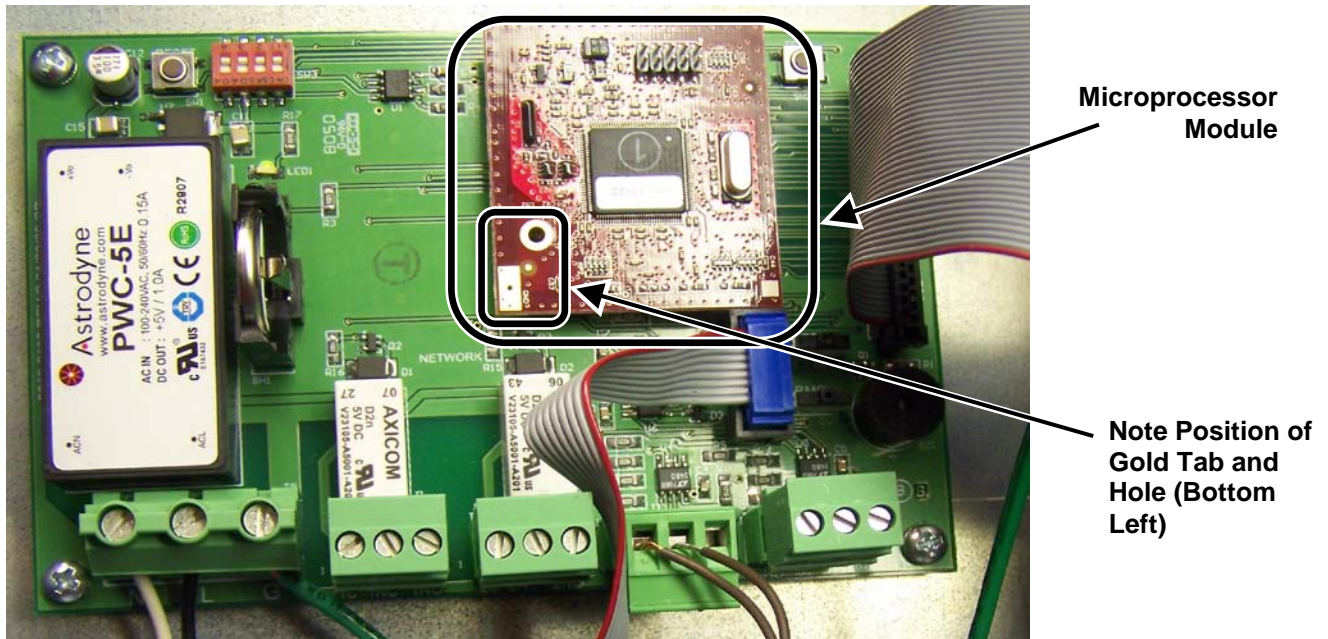

Figure 1. Location of Microprocessor Module Inside the PAGM Housing
4. Orient the new microprocessor so the gold tab and hole are at the bottom left corner (refer to Figure 1).